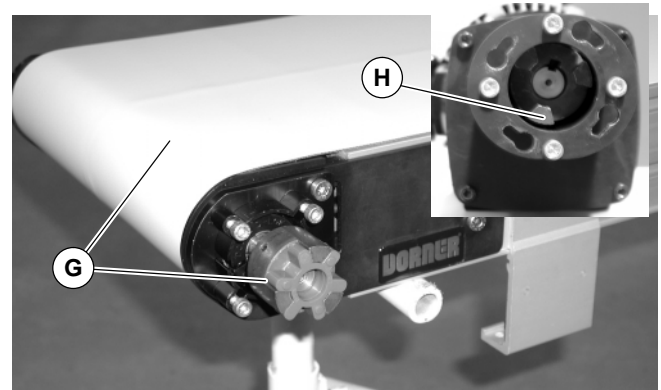

Figure 4
3. Rotate conveyor belt and attached conveyor coupling (G of Figure 4) to align with gearmotor coupling (H).